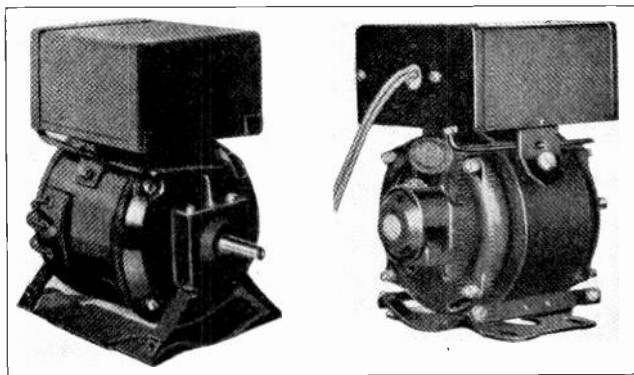

Fig. 113. Two popular types of capacitor motors such as are used by the millions on domestic refrigerators. Note the condensers on top of the motors.
A.C. capacitor type such as shown in Fig. 23 and Fig. 56. Two very popular types of capacitor motors are shown in Fig. 113 of this section.
Capacitor type motors such as shown in Fig. 113 are becoming more and more popular and common on domestic refrigerators, because they have no commutators or brushes to wear out or give trouble or to cause radio interference.